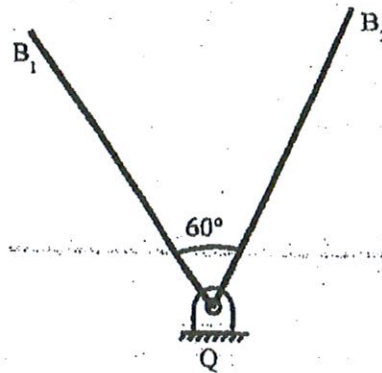

Figure. 1
It is required to design a crank-rocker four-bar mechanism OABQ. OA is the crank, AB is the coupler, QB is the rocker, OQ is the fixed link. The link QB is shown in Figure.1 with its real length. It is required to oscillate the link QB 60° between the shown positions as in Figure.1. The time to move from position (1) to position (2) is equal to 0.8 of the time to move from the position (2) to position (1). Do the following: